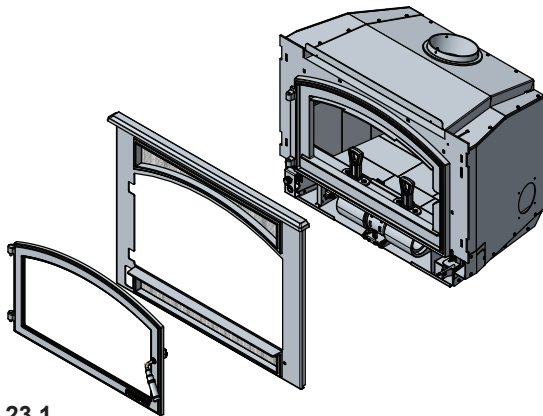

Figure 23.1
2. Remove the door by lifting the door up and off of the hinges; set aside (**Figure 23.1**).
3. Remove the fascia by lifting up and off of the appliance; set aside (**Figure 23.1**).